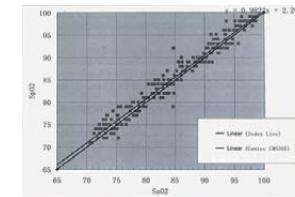
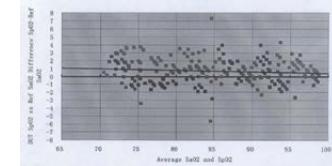

Figure 2. SpO2 regression plot
Figure 3. Bland-Altman plot
5. Measurement Accuracy: ±2% in stage of 70% ~ 100% SpO2, and meaningless when stage being smaller than 70%. ±2 bpm or ±2% (select larger) for Pulse Rate. Clinical Trial: SpO2 regression plot and Bland-Altman plot, Refer to Figure 2 & Figure 3.